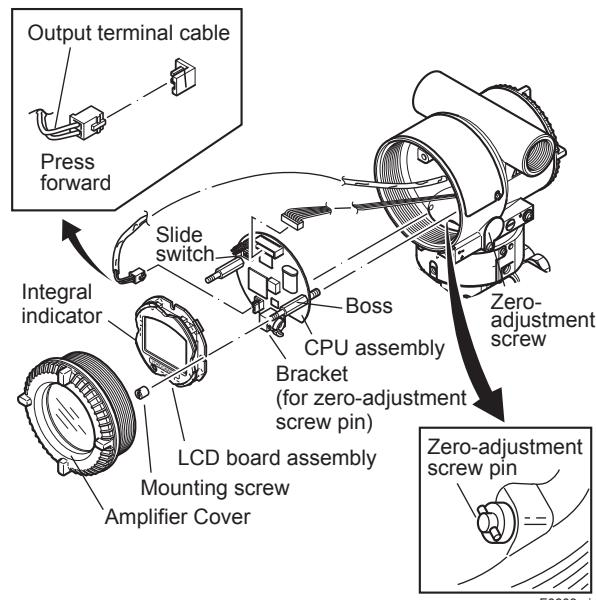

Figure 8.3 Removing and Attaching LCD Board Assembly and CPU Assembly
This subsection describes the procedure for replacing an integral indicator. (See figure 8.3)
This subsection describes the procedure for replacing the CPU assembly. (See figure 8.3.)
- 2) Turn the zero-adjustment screw to the position (where the screw head slot is horizontal) as shown in figure 8.3.